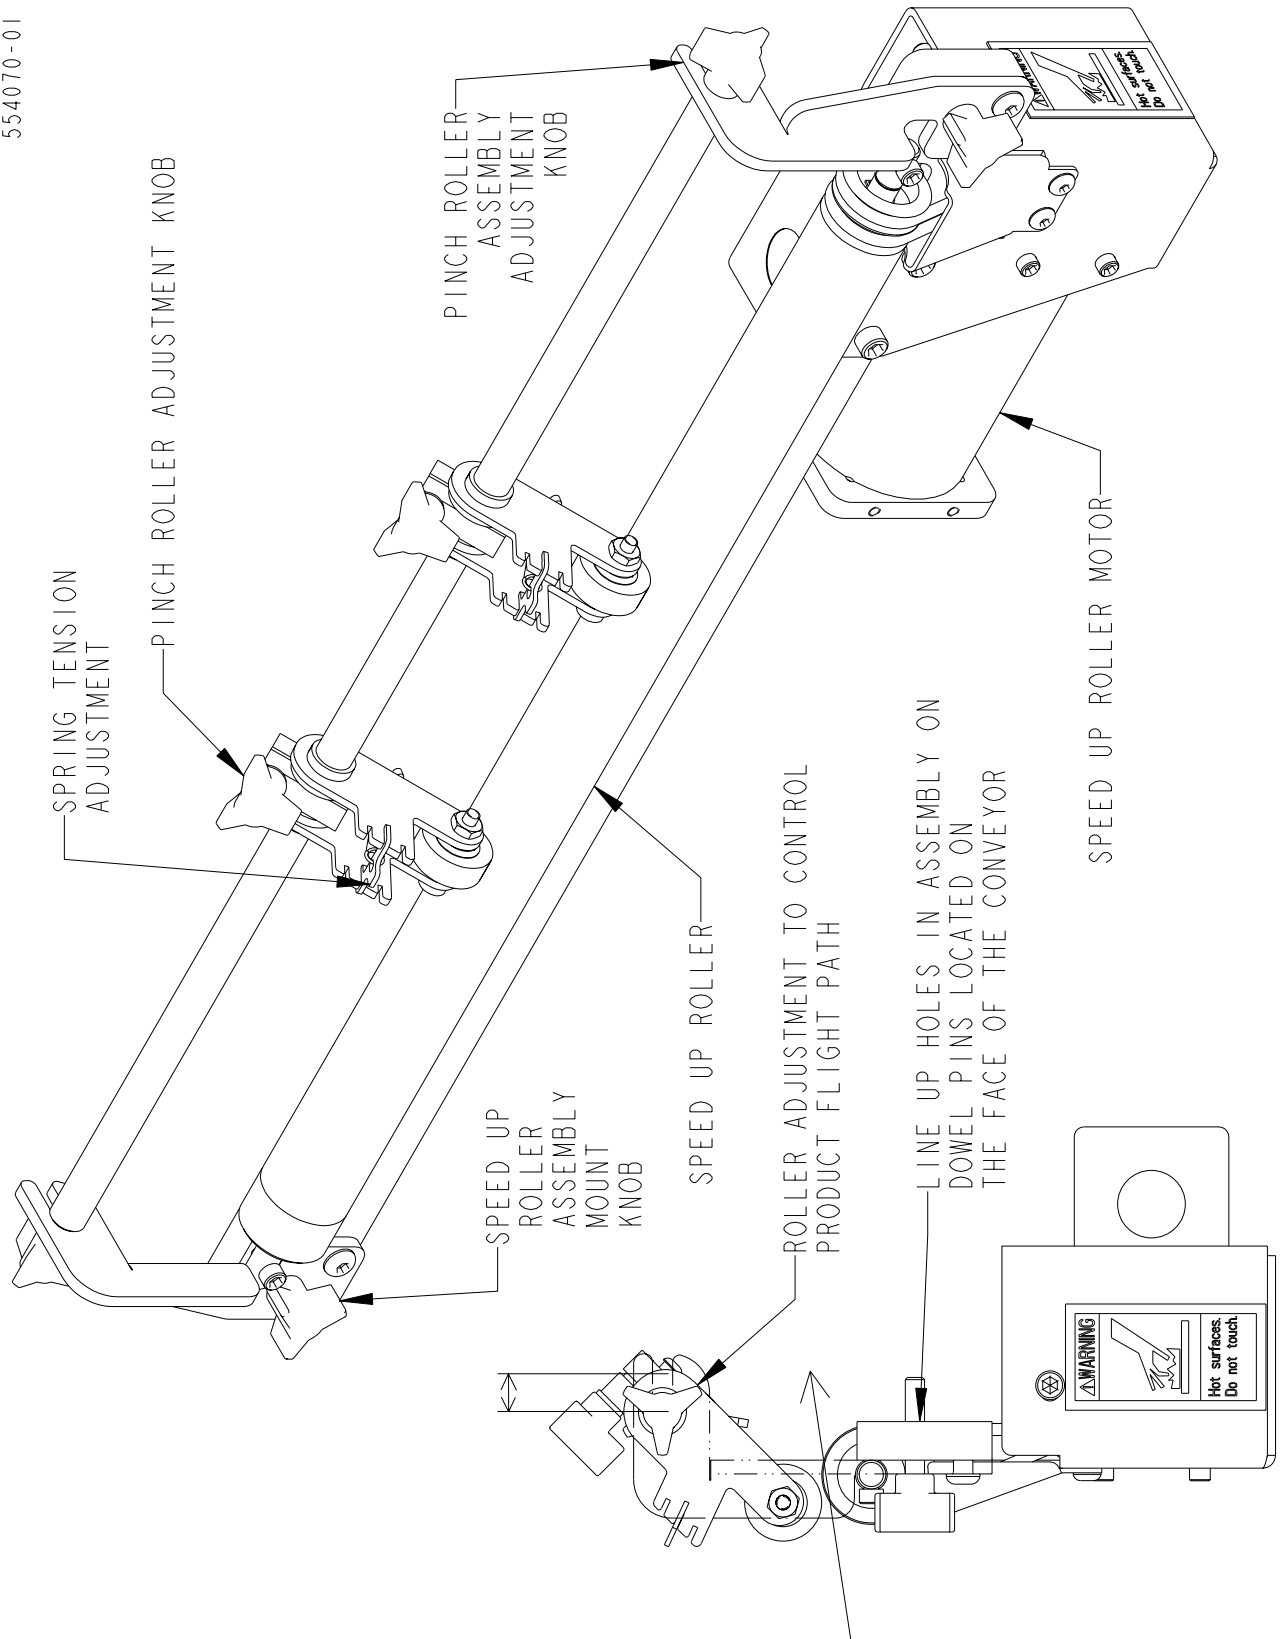

FIGURE 6.0
4.1.5 Speed Up Roller Component Description (See Figure 6.0)